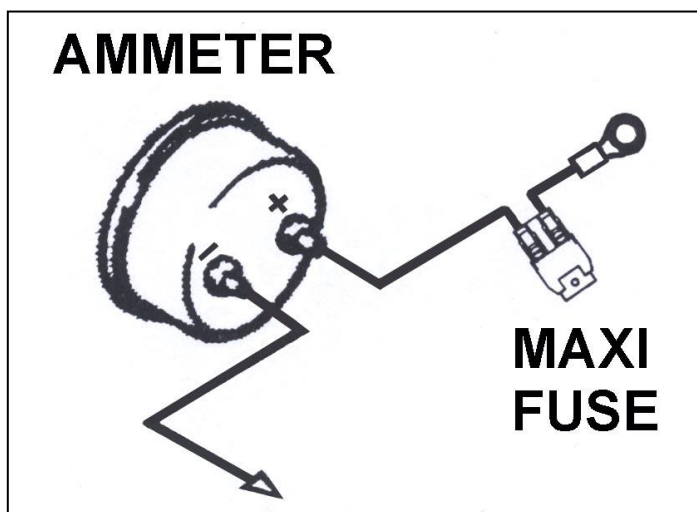

Figure 10-2 Ammeter & Maxi Fuse
10.3 Connecting an Ammeter and the Maxi Fuse. See Figure 10-2.